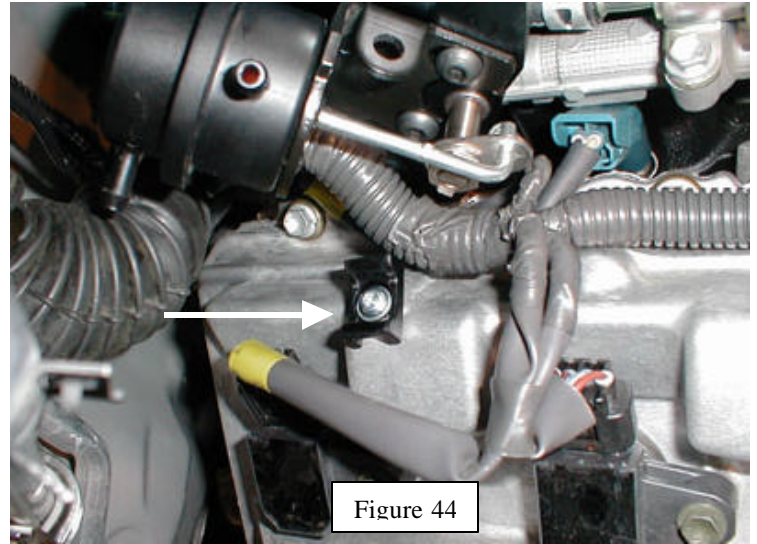

Figure 44
8. Install cable tie mount to unused boss on passenger-side cam cover. Secure cable tie mount with supplied 6mm Button-head bolt and 6mm washer (Figure 44).